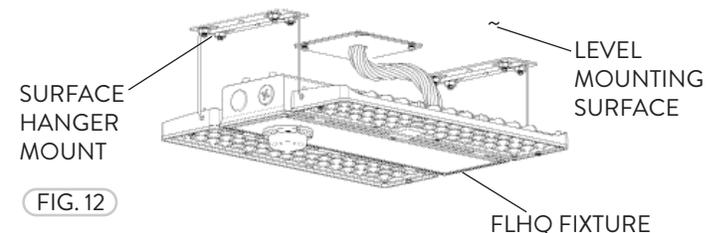

FIG. 12
- 4 Surface Hanger Mounted FLHQ fixture (Fig. 12).